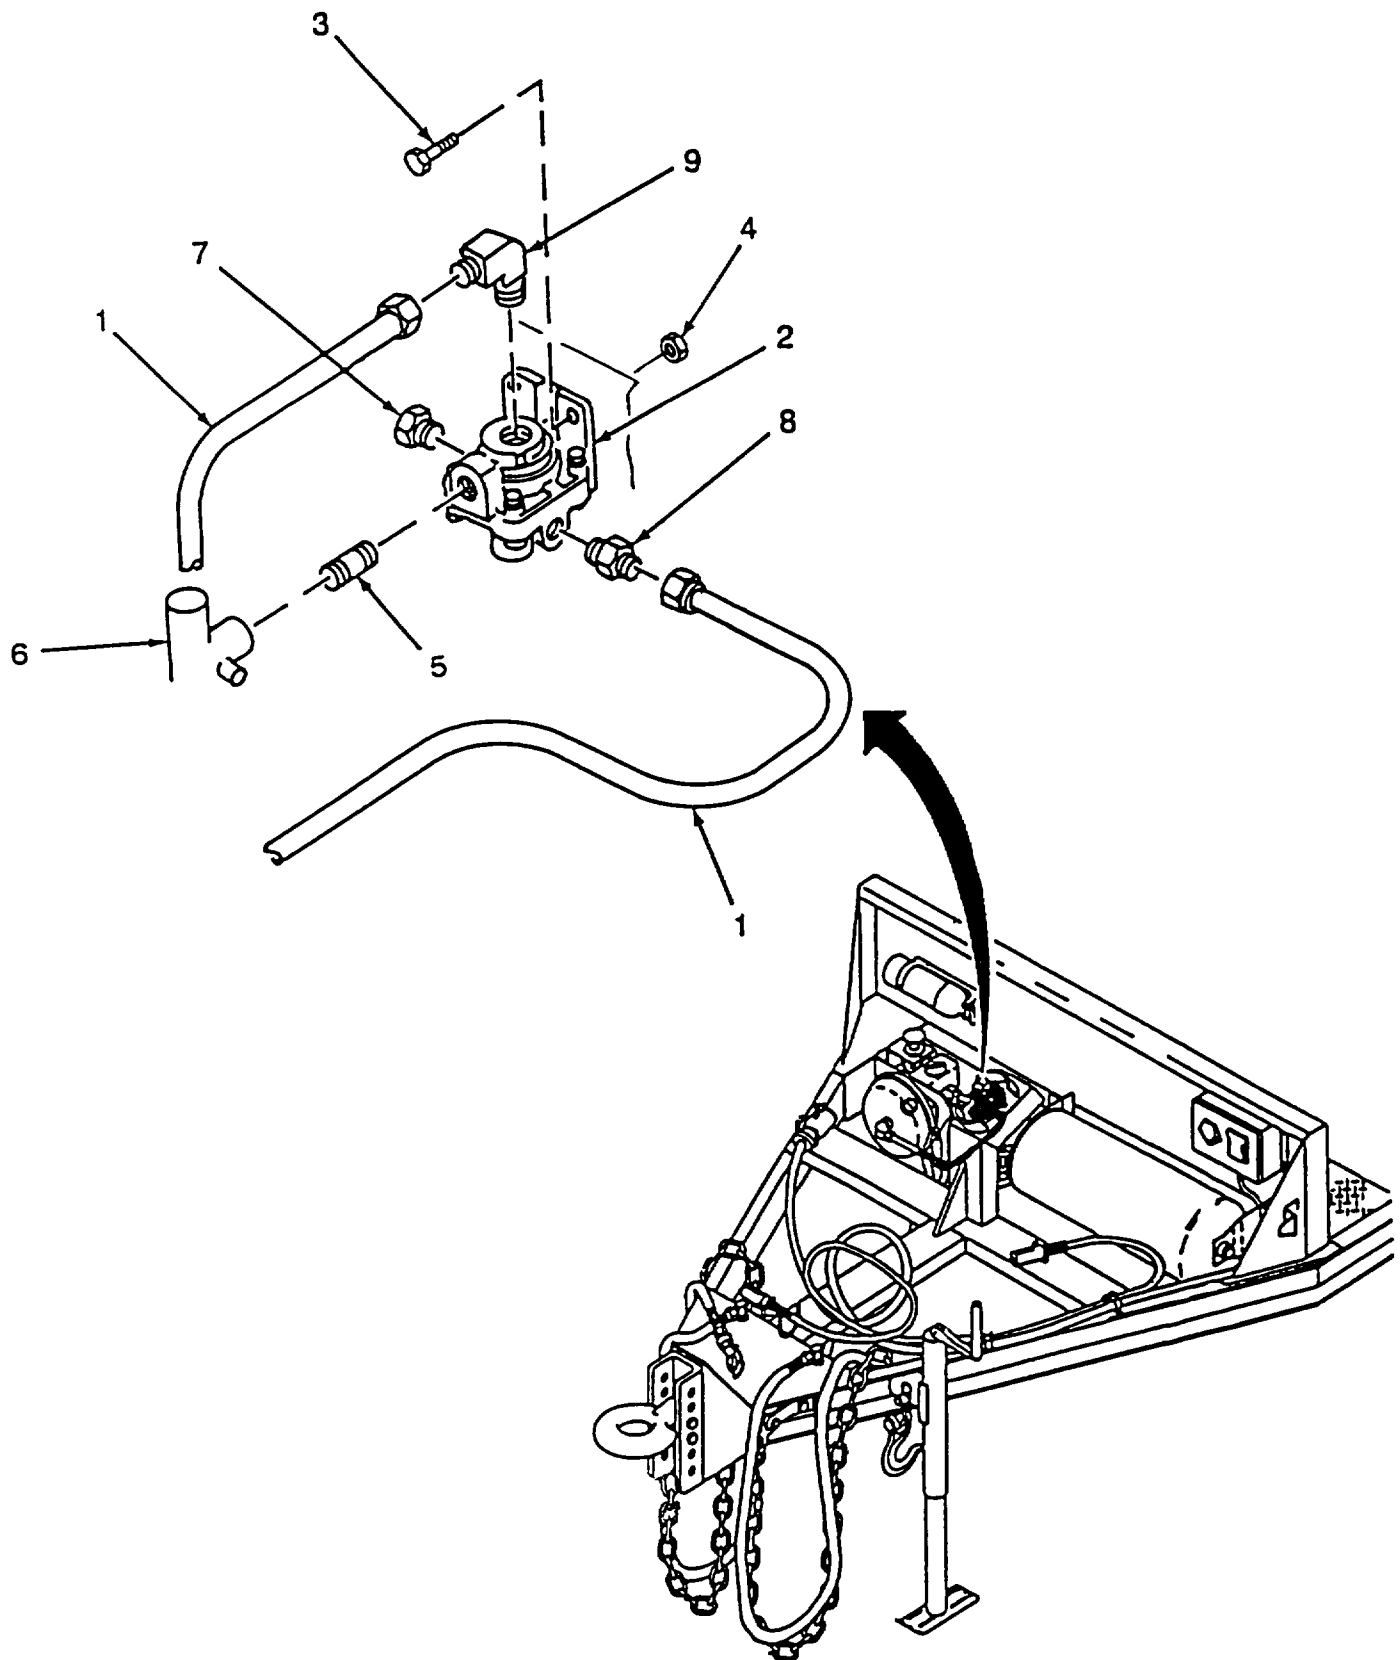

Figure 4-52. Quick Release and Limiting Valve
a. Removal. (Refer to Figure 4-52).
- (1) Completely vent trailer air brake system pressure by opening drain valve. (para 4-51).
- (2) Disconnect two air brake lines (1) from quick release and limiting valve (2) fittings.
- (3) Remove two hex head-cap screws (3) and two locknuts (4) holding quick release and limiting valve (2) to trailer.
- (4) Unscrew quick release and limiting valve (2) from hex nipple (5) and synchronizing valve (6).
- (5) Remove hex head-plug (7), male adapter (8) and male elbow (9) from ports of quick release and limiting valve (2).
- (6) Clean and inspect quick release and limiting valve (2), hex head plug (7), male adapter (8), male elbow (9) and air brake lines (1)